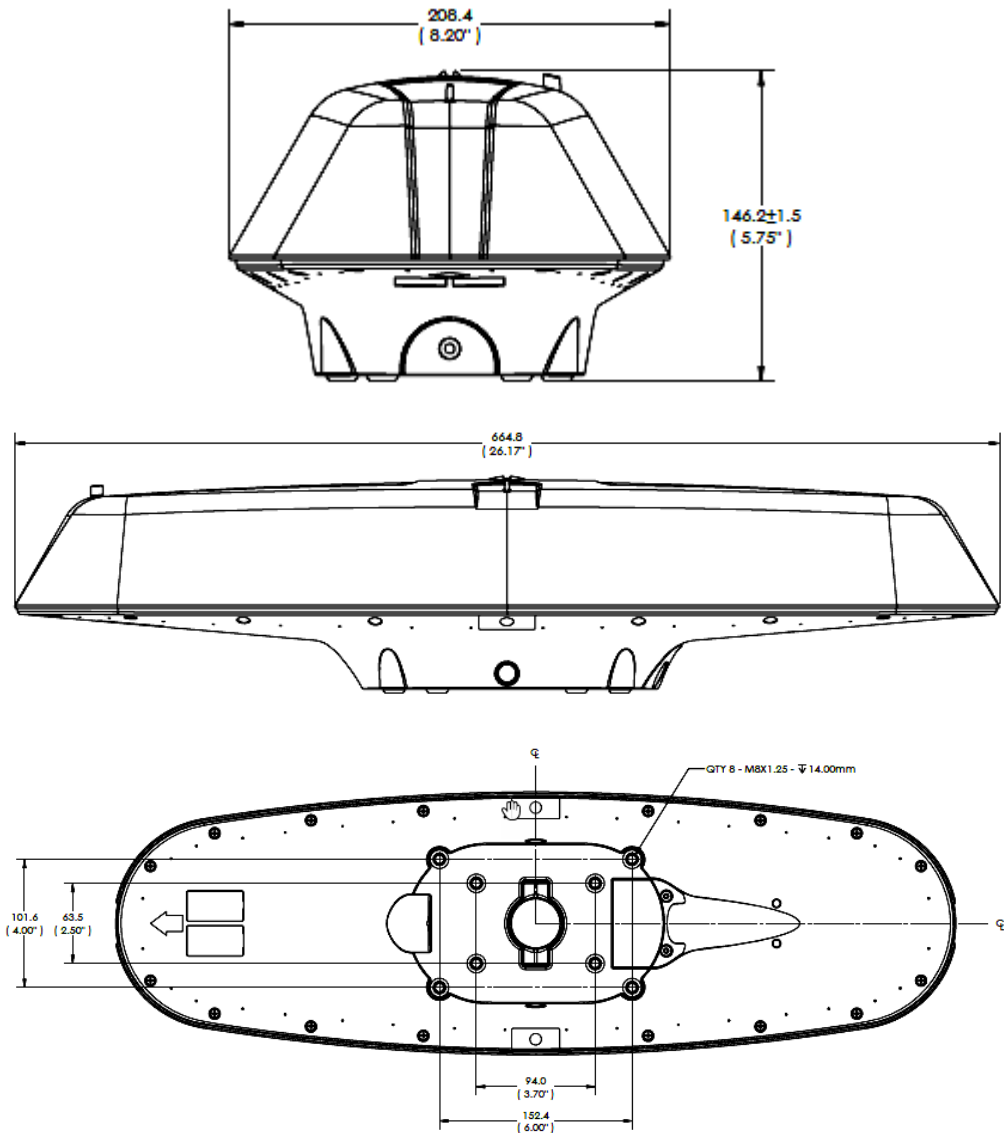

Figure 2-7: V123_V133 dimensions
1. **Flush-mount** - The bottom of the V123_V133 contains eight M8-1.25 holes for flush mounting the unit to a flat surface (see Figure 2-7). The eight holes comprise two sets of four holes. Flush mounting does not provide any additional dampening to the receiver. The V123_V133 can be mounted using an optional mounting bracket. See Table 1-1 for bracket part information.
2. **Pole-mount** - The V123_V133 can be mounted using a mounting pole. The set screws on the long sides of the base (see middle drawing in Figure 2-7) allow you to secure the V123_V133 in place (3/16" Allen wrench not included). **Hand tighten until snug (do not overtighten).**
Figure 2-7 illustrates the physical dimensions of the V123_V133.